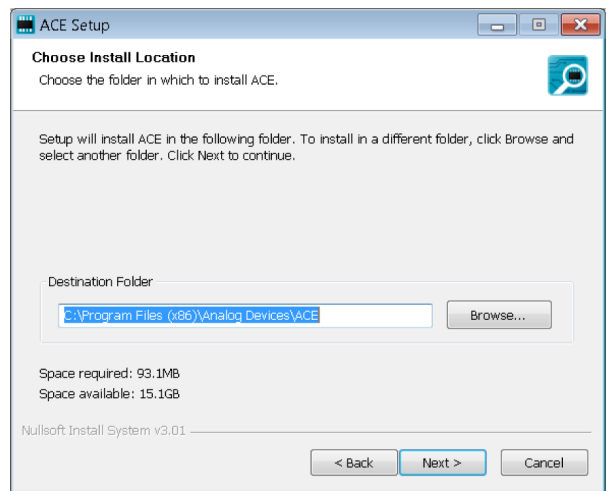

Figure 6. Evaluation Software Installation—Install Location
6. Click **Browse...** to choose the install location and then click **Next >** (see Figure 6).